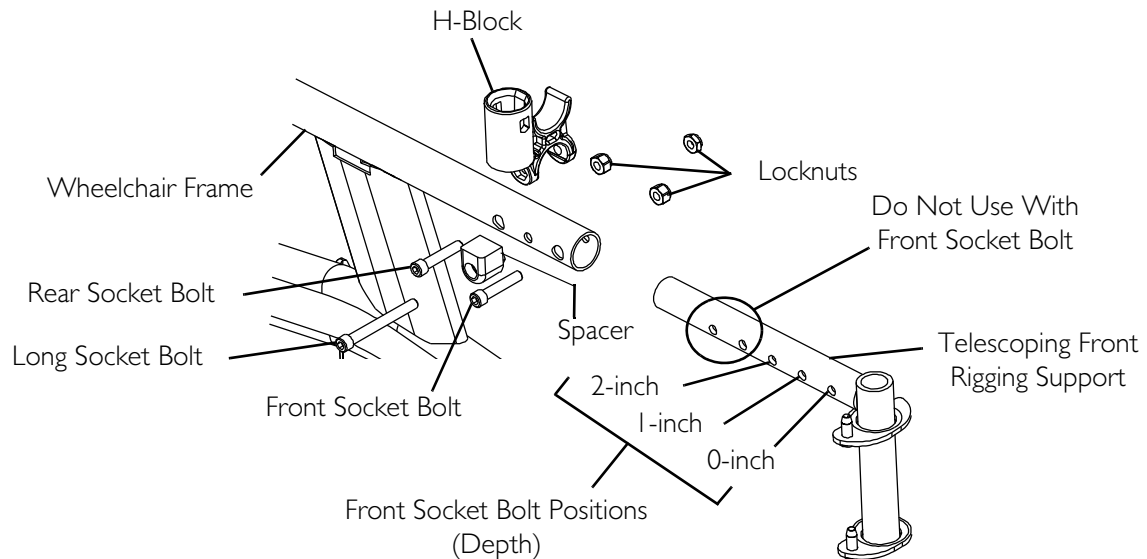

FIGURE 6.7 Adjusting/Replacing Telescoping Front Rigging Support
NOTE: For this procedure, refer to FIGURE 6.7 on page 38.
5. Using the front and rear socket bolts and two locknuts, secure the telescoping front rigging support to the wheelchair frame as shown in FIGURE 6.7.
6. Using the long socket bolt and locknut, secure the H-block and spacer to the wheelchair frame and the telescoping front rigging support as shown in FIGURE 6.7.